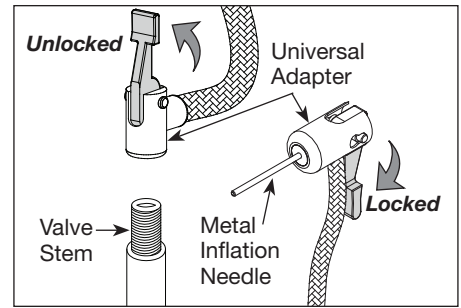

Figure 2 - Lock Universal Adapter Securely
3. When the universal adapter is firmly in place, press the locking lever down. (See Figure 2).
NOTICE If inflator immediately stops inflating and shuts off, make sure the universal adapter is pressed fully on to the tire valve stem or the metal inflation needle is inserted correctly (See Figure 2).
2. When the universal adapter is firmly in place, press the locking lever down. (See Figure 2).
NOTICE If inflator immediately stops inflating and shuts off, make sure the universal adapter is pressed fully on to the tire valve stem (See Figure 2).